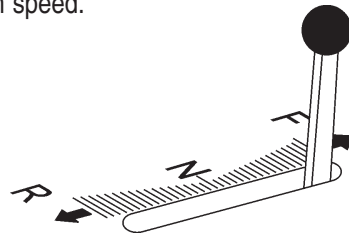

Figure 40. Transmission Engage/Disengage Lever (Forward Position)
- Move the **travel lever** towards the **FORWARD** position to increase forward travel speed during cutting (Figure 40). Placing the travel lever fully forward will move the saw at maximum speed.